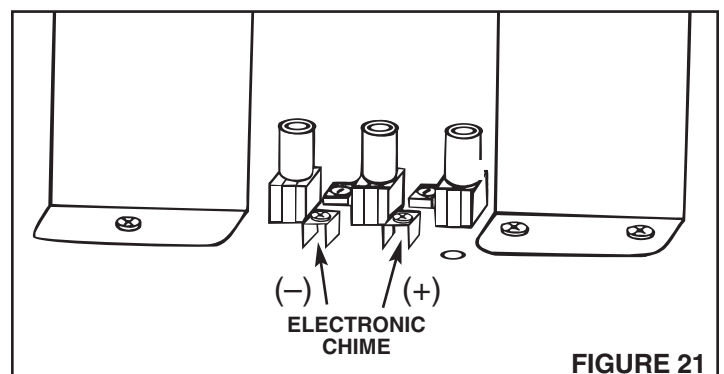

FIGURE 21
1. Refer to Figure 21. Connect NuTone IW-2 cable from the chime to the (+) and (-) screw terminals on the master station's main circuit board.